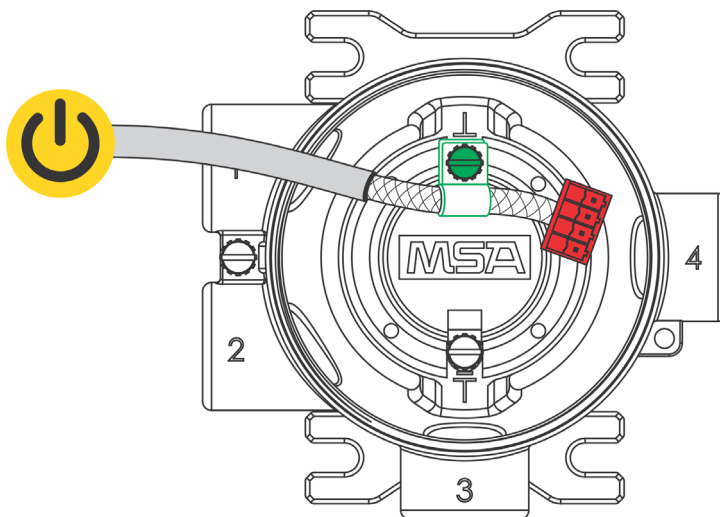

Fig. 32 Connecting Power and Grounding Cable
Using shielded cable is recommended. The cable shield should be terminated internal to the instrument enclosure using the crimp terminal provided (see Fig. 32).
- (7) Tighten screws on connector and tug gently on wires to ensure they are secure.
- (8) Connect shield of cable to base of instrument housing (see Fig. 32).